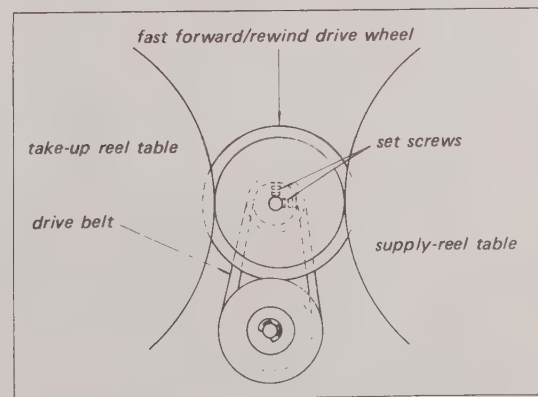

Fig. 5-12. Drive wheel replacement
2. Loosen the two 3 x 6 Allen head set screws (between the drive wheel and the pulley). See Fig. 5-12. A 1.5 mm hex key is required. Back the screws out quite far to clear the shoulder on the shaft.